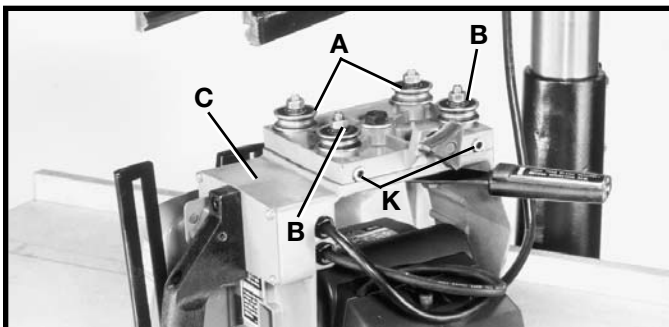
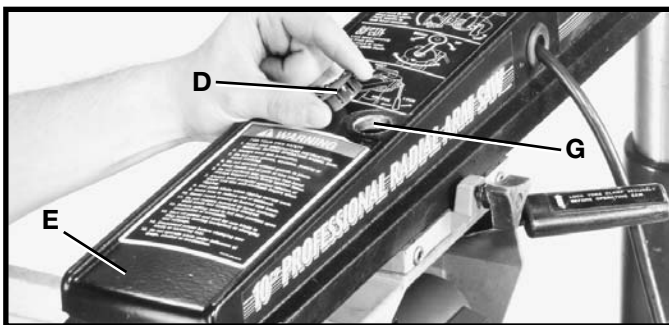
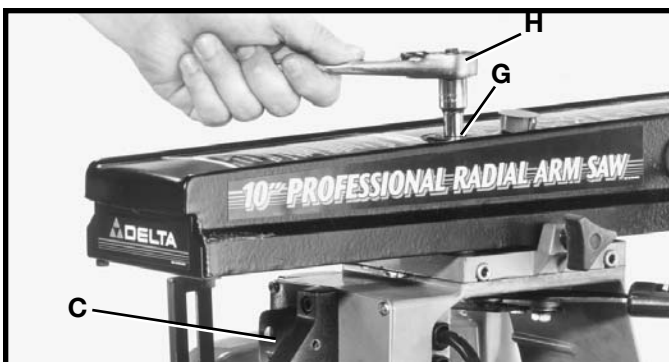
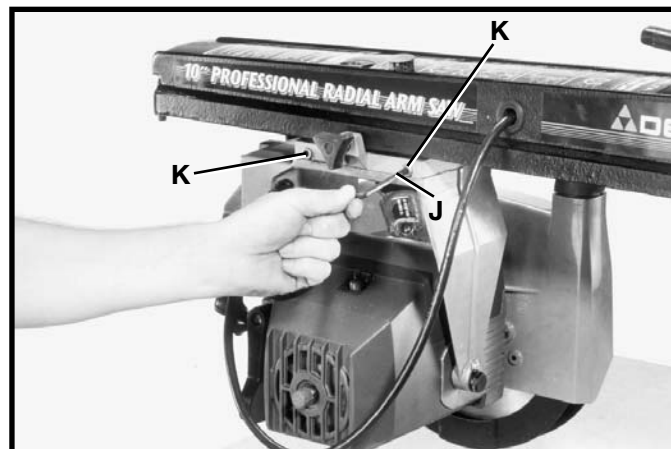

Fig. 61
Fig. 62
Fig. 63
Fig. 64
The cutting-head (C) Fig. 61, is suspended from four pre-loaded, lubricated, shielded ball bearings, two of which are on fixed shafts at (A), and two on adjustable shafts at (B). **NOTE: CUTTING-HEAD (C) FIG. 61, IS REMOVED FROM TRACK ARM FOR ILLUSTRATION PURPOSES ONLY. DO NOT REMOVE CUTTING-HEAD FROM TRACK ARM!**
2. Remove plastic plug (D) Fig. 62, from the top of track arm (E).
3. Slide cutting-head (C) Fig. 63, until one of the adjustable bearings (B) Fig. 60, are visible through hole (G) Figs. 62 and 63.
4. Using a 1/2" socket, extension, and ratchet (H) Fig. 63, through hole (G) in track arm, slightly loosen hex nut on adjustable shaft (B) Fig. 61, approximately 1/8 turn. Repeat procedure for other bearing.
5. Using a 3/16" Allen wrench (J) Fig. 64, turn adjustment screws (K) Figs. 61 and 64 to remove all "play." **NOTE: DO NOT OVERTIGHTEN ADJUSTMENT SCREWS (K). THIS CAN DAMAGE BEARINGS.**